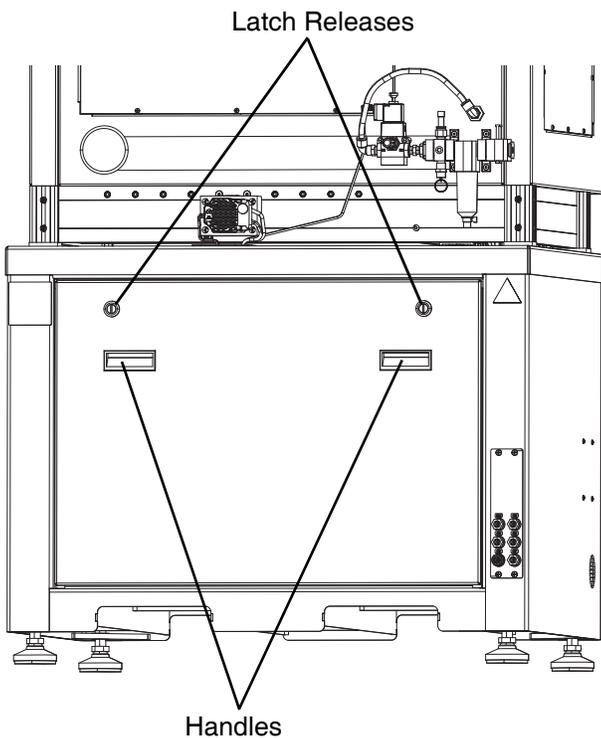

FIG. 15: C-300 Rear Panel
2. Use a large flat head screw driver or similar tool to turn the two latches on the rear panel 1/4 turn counterclockwise. This will release the panel. See **Figure 15**.